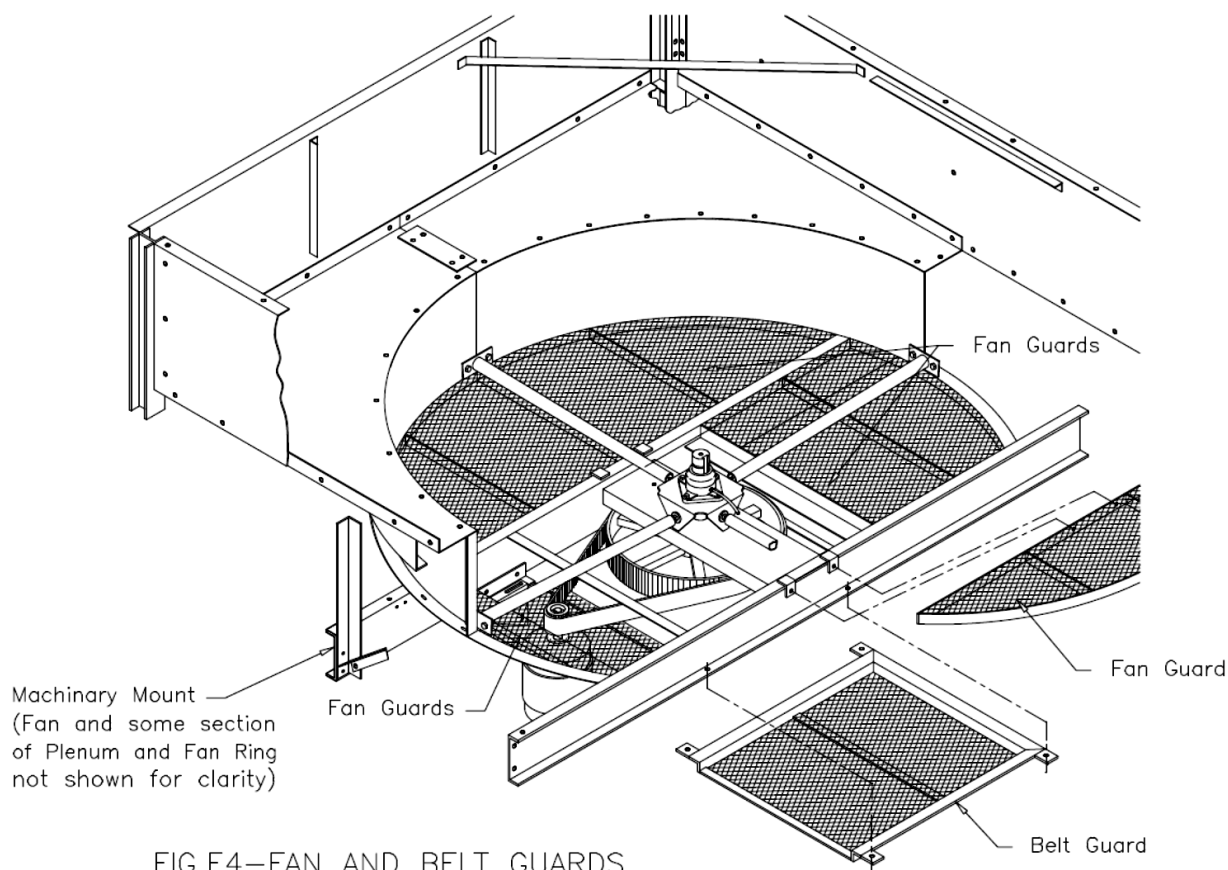

FIG.E4-FAN AND BELT GUARDS
8. Install belt guard. See Fig. E4.